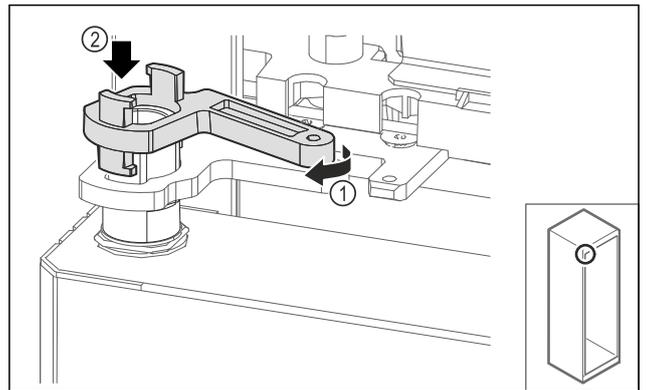

Fig. 62
- ▶ Turn the swap bearing block lock slightly and Fig. 62 (1) place it on the sleeve Fig. 62 (2).